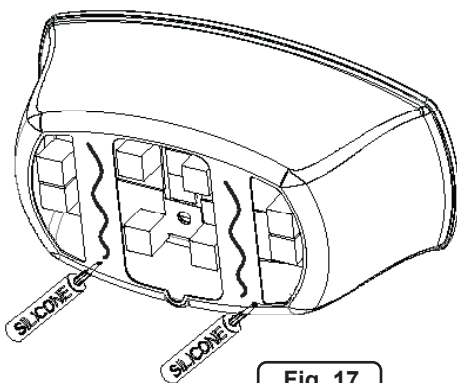

Fig. 17
6. Use structural adhesive or silicone to attach tub skirt to subfloor. Make sure the tub is properly oriented according to the drain-overflow end (Figure 17).